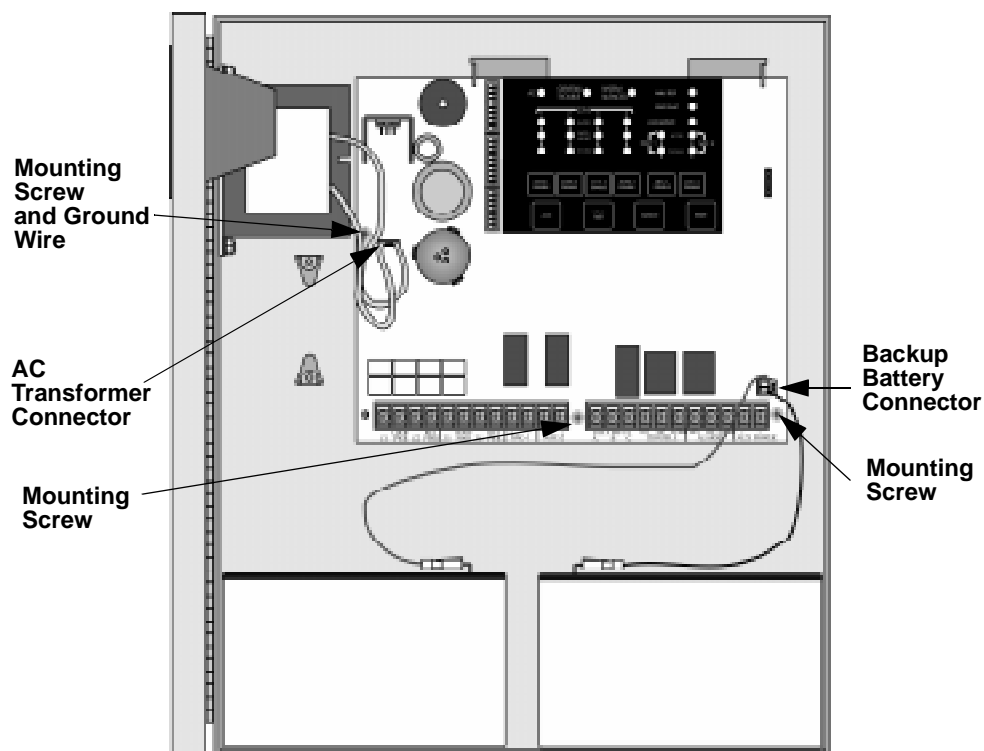
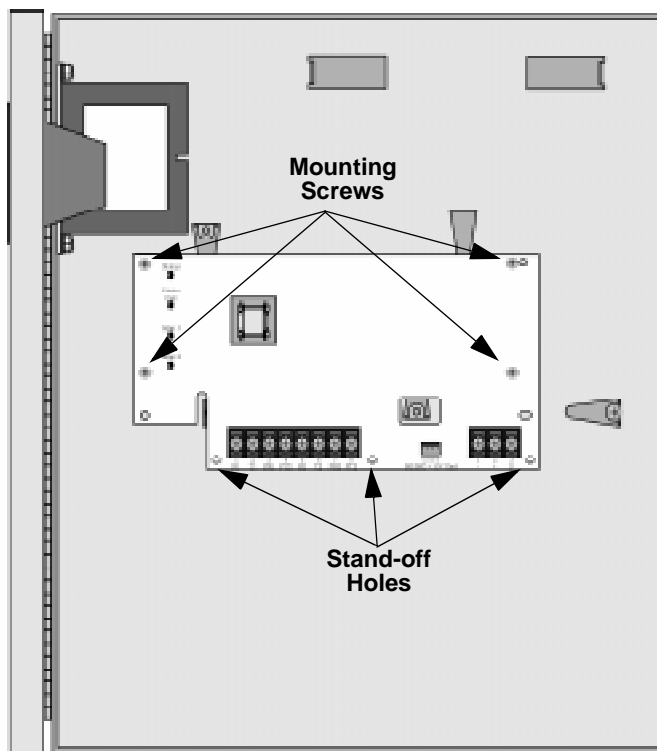

Figure 3-3 Control Panel Connectors and Mounting Screw Locations
Figure 3-4 Placement of SK-2104 in Cabinet
Note: Figure 3-3 and Figure 3-4 show the SK-4224 control panel.
1. Unplug the AC transformer connector from the control panel. See Figure 3-3.
2. Disconnect the ground wire. See Figure 3-3.
3. Disconnect the backup battery connector. See Figure 3-3.
4. Unscrew the three control panel mounting screws. See Figure 3-3.
6. Insert the three plastic stand-offs into the appropriate circuit board holes. See Figure 3-4.
7. Insert the SK-2104 board as shown in Figure 3-4.
9. Reinsert the fire control panel. See Figure 3-3
10. Reconnect the AC transformer connector. See Figure 3-3.
11. Reconnect the ground wire. See Figure 3-3.
12. Reconnect the backup battery. See Figure 3-3.